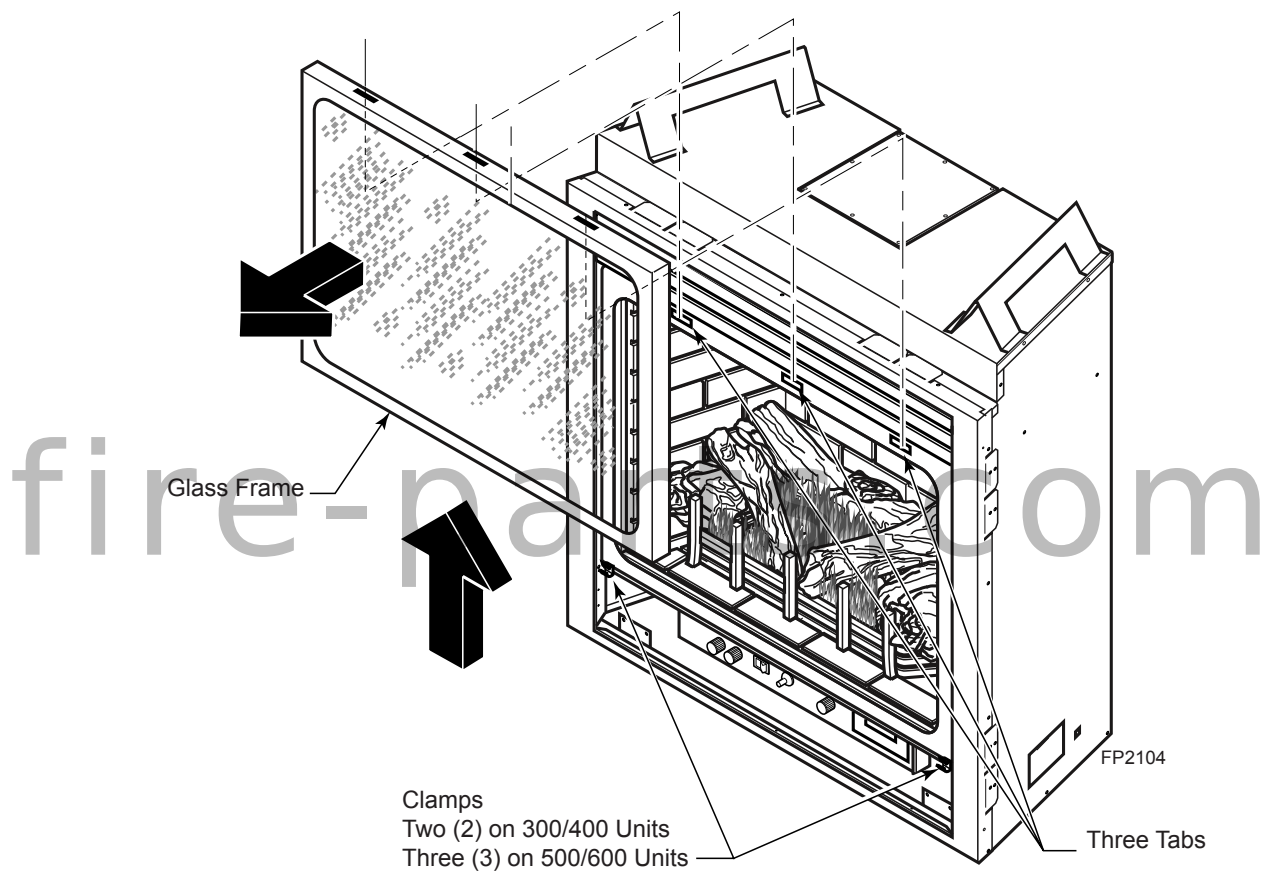

Figure 59 - Removing Glass Frame
1. Release two clamps on bottom of fireplace. *Figure 59*